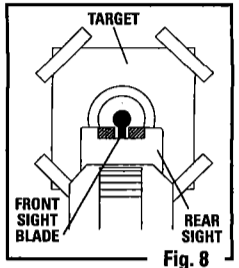

Fig. 8
- The soft air pistol is correctly aimed when the front sight blade is positioned exactly in the notch of the rear sight. The top of the front sight blade should be even with the top of the notch in the rear sight. The bullseye should appear to rest on the top of the front sight (Fig. 8).